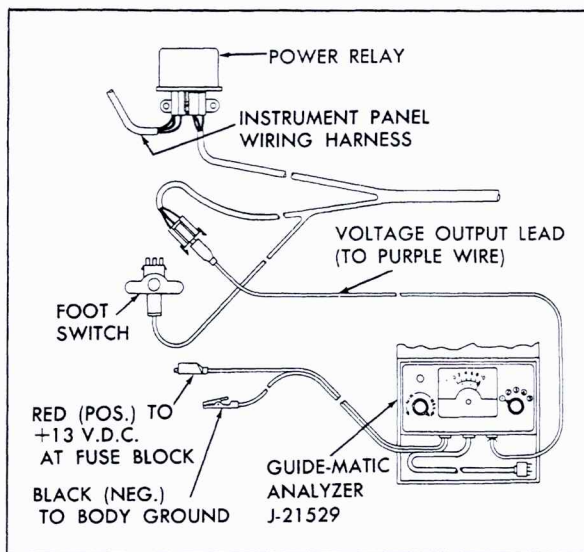

Fig. 15-37 Power Relay Check
g. Check for defective power relay. Connect analyzer, J-21529, as shown in Fig. 15-37. Headlights should switch to low beam with voltage control knob at maximum clockwise position and function selector switch in position #1. If so, proceed to step 5h. If not, replace power relay. Make normal system connections and check as described in steps 1-4. If system still does not operate properly, proceed to step 5h.